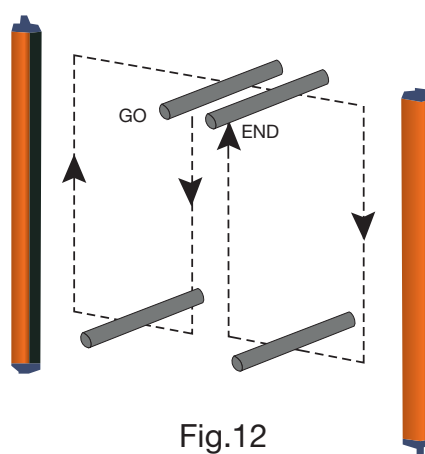

Fig.12
- ESPE remains blocked () intercepting the beams along the protected area using the specific test piece, following the Fig.12 scheme.